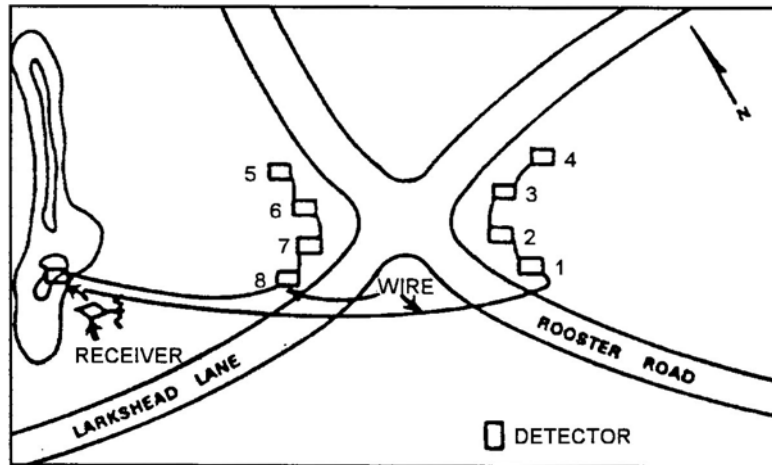

Figure 2. Installation of detectors in hot loops.
- (b) As the example in Figure 2 shows, the area to be covered has a road junction. To cover this road junction, the hot loop would be the best method to use. This will not only let you know an intruder is on the road, but which way the intruder is moving. By observing the sequence in which the detectors are activated, the direction of movement can be determined. If the sequence is 1, 2, 7, and 8, the intruder is personnel moving north on Rooster Road, then turning west on Larkshhead Lane toward your position.
NOTE: When used as shown in Figure 2, the detectors should be at least 100 meters apart.